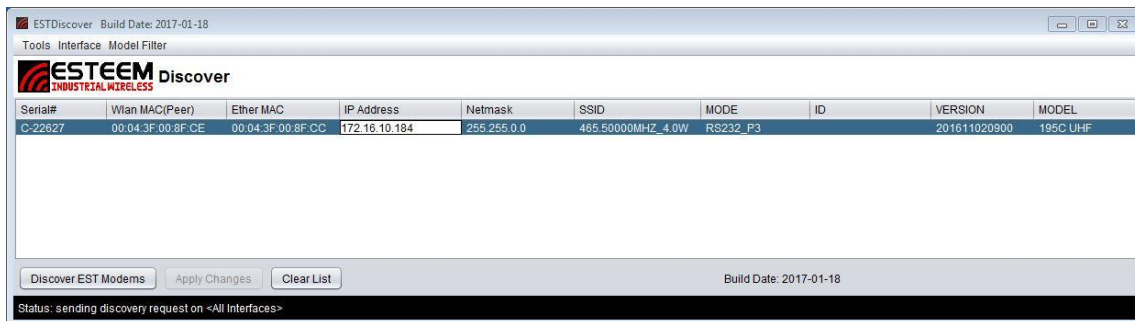

Figure 5: ESTeem Discovery Utility
1. Verify the basic hardware configuration from Chapter 2 and open the 195 Narrowband Configuration Utility (Figure 5). Press the *Discover EST Modems* button to continue.
2. The ESTeem 195M/H/C will be displayed (Figure 5). If the ESTeem 195M/H/C is not on the same IP subnet as the computer, double click on the IP address and Netmask to make the necessary changes. Press the *Apply Changes* button when complete.